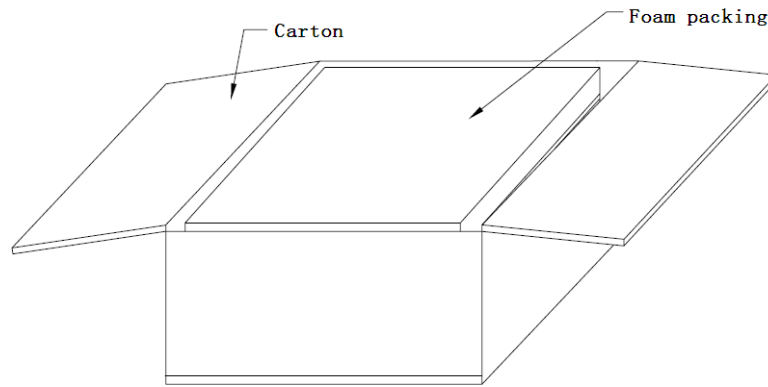

Figure 3-8 Cut the plastic bag, cut off the scotch tape, and open the carton
Step 2 Cut the plastic bag, cut off the scotch tape, and open the carton as shown in Figure 3-8;